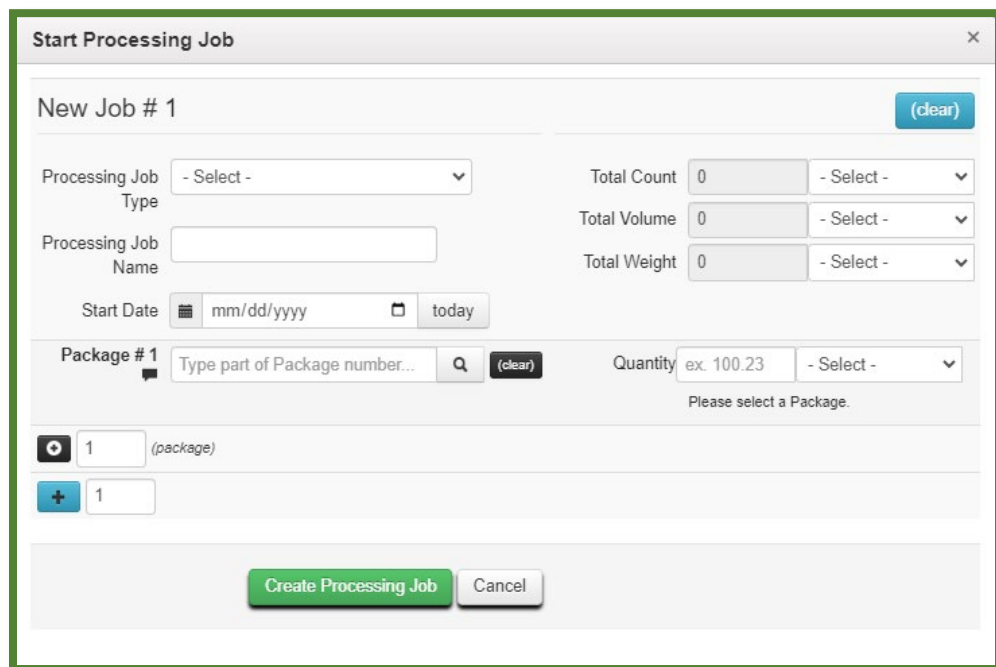

Figure 7: Start Processing Job action window
- Quantity is used to record the quantity of product that is being used from the package in the Processing Job. Once all information has been entered click the green Create Processing Jobs button information - **see Figure 7 below.**